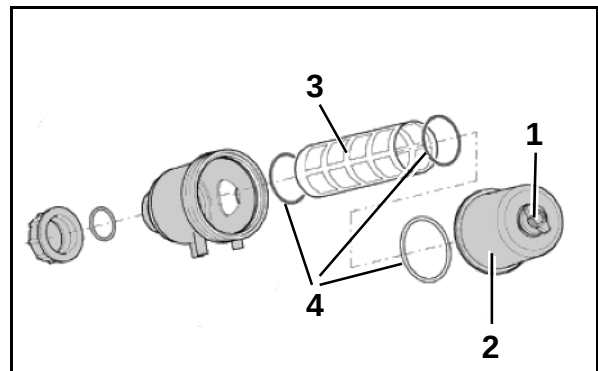

Fig. 107
Clean the suction filter (Fig. 107) daily after the spraying operation.
5. Slacken the thumb nut on the suction filter (Fig. 107/1).
6. Remove the lid (Fig. 107/2).
7. Pull out the filter insert (Fig. 107/3) and clean with water.
8. Check the O-rings (Fig. 107/4) for damage.
Ensure the correct fitting of the O-rings (Fig. 107/4).